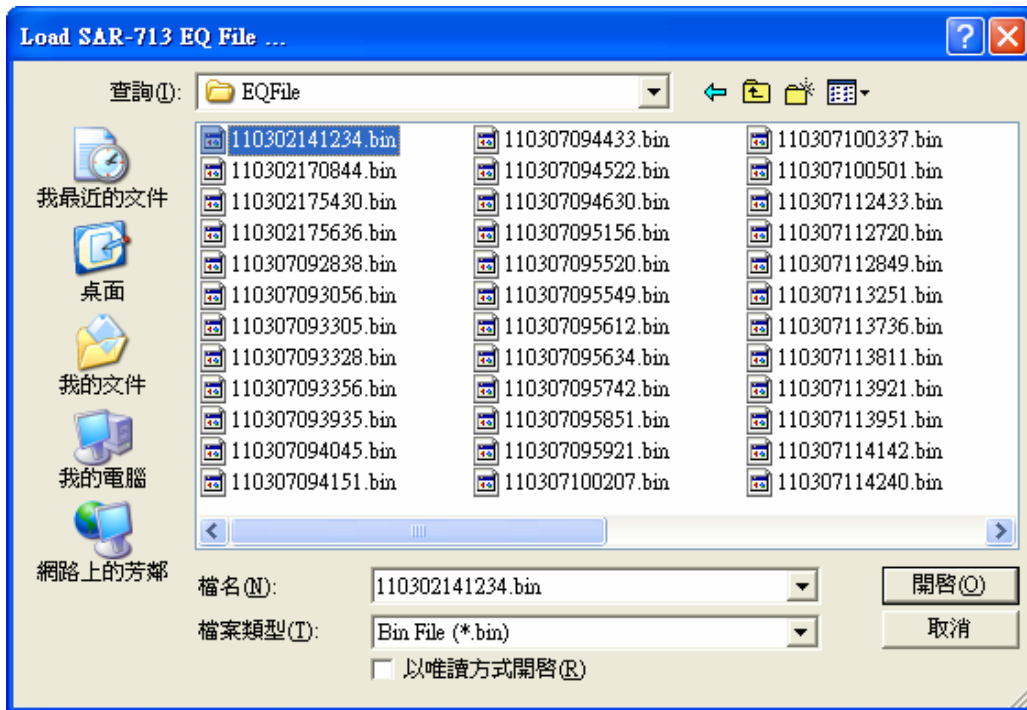
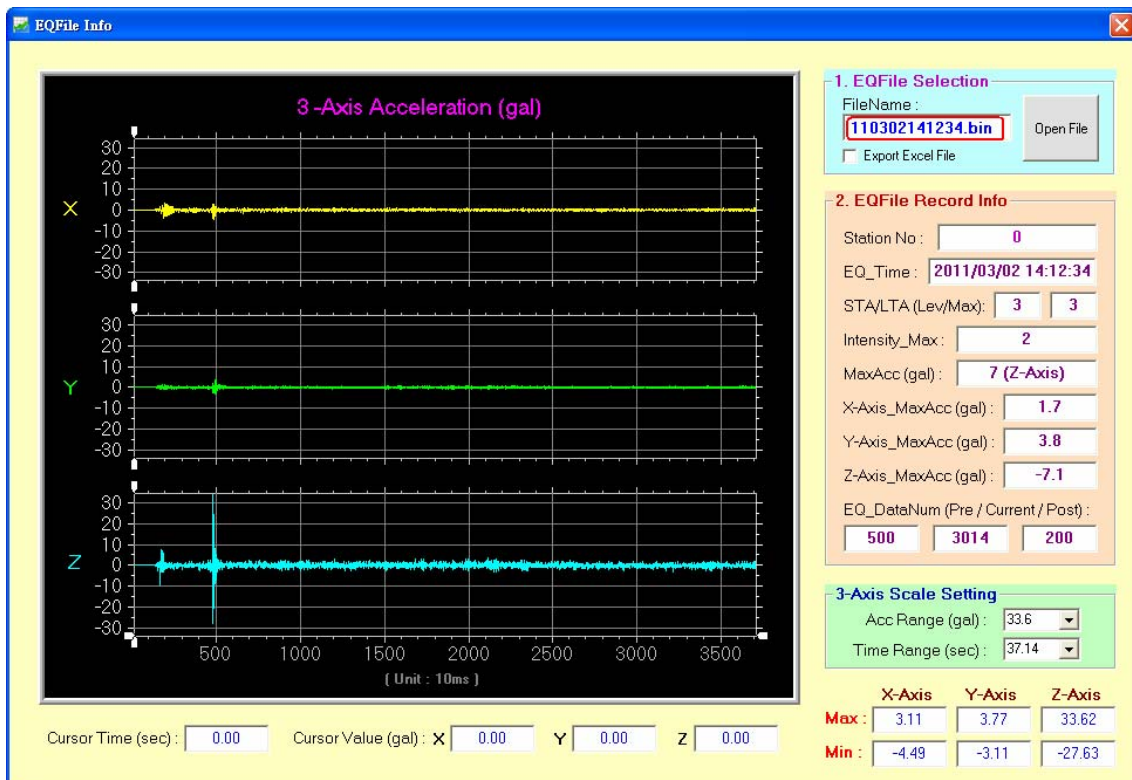

Fig 5.4-3 Assign the Earthquake File
Fig 5.4-4 Show the Information of Earthquake File
- (2) Click “Open File” button in the ”EQFile Selection” frame and choose the earthquake file (\*.bin) like Fig 5.4-3. The information recorded in earthquake file will be shown with trend and data format like Fig 5.4-4.